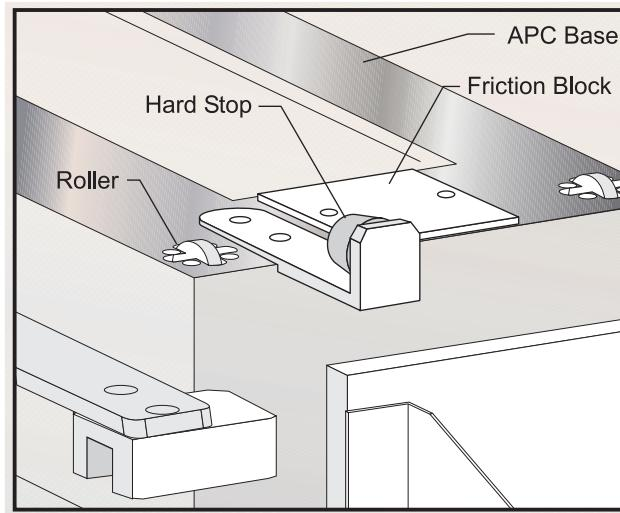

Figure 3.13 View of APC base showing friction block and hard stop.
19. Pull the pallets onto the friction blocks and against the hard stop (see Figure 3.13). Rotate the chain slightly, using the chain position adjustment tool, to allow each drive leg detent to clear the chain drive roller.